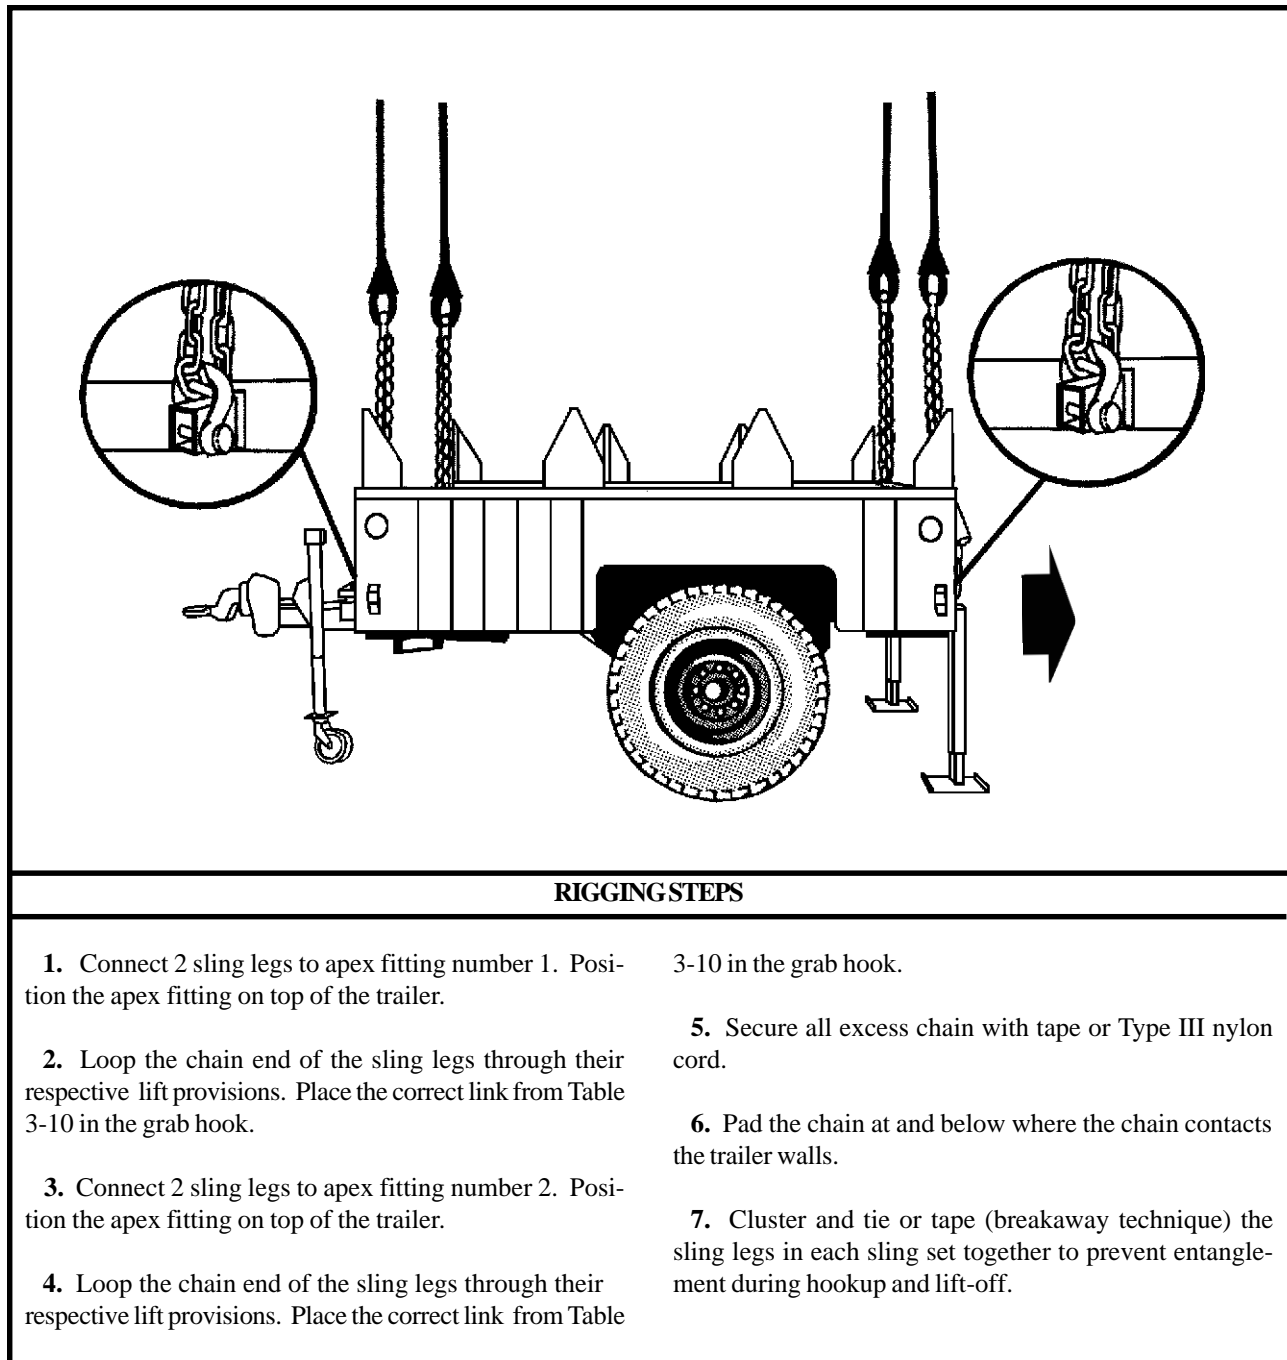

Figure 3-10. High Mobility Trailers
(2) **Rigging.** Rig the load according to the steps in Figure 3-10.
(4) **Derigging.** Derigging is the reverse of the preparation and rigging procedures in steps d (1) and d (2).